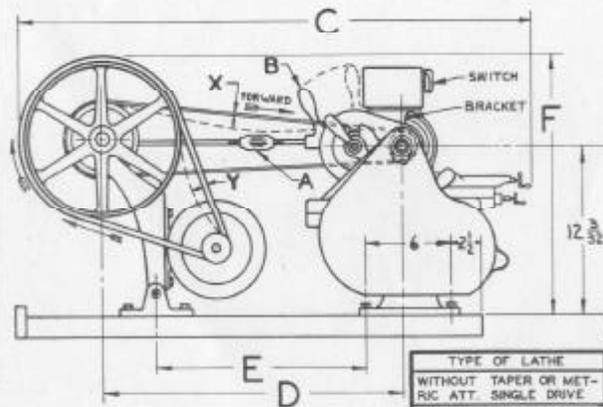
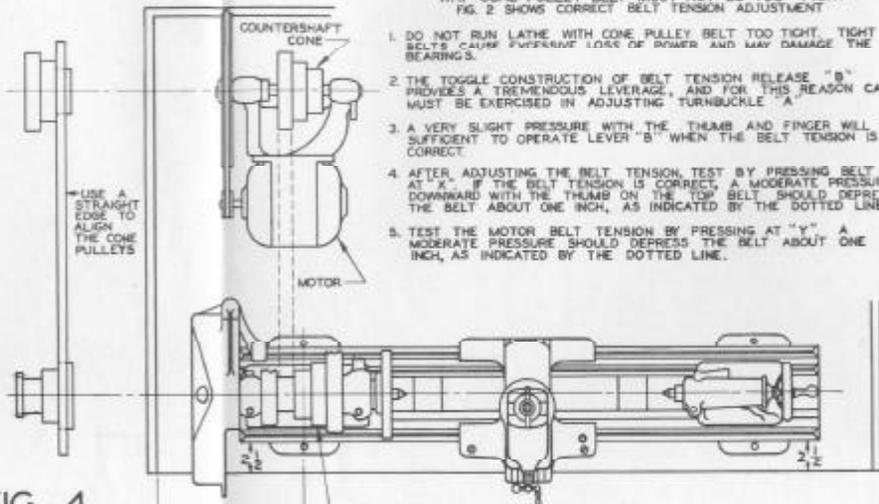

FIG. 2
FIG. 4
2. SET COUNTERSHAFT ON BENCH. SEE FIG. 2. ALIGN COUNTERSHAFT WITH LATHE USING STRAIGHT EDGE FROM CONE TO CONE. SEE FIG. 4. SCRIBE AROUND INSIDE OF SLOTS IN BASE OF COUNTERSHAFT. REMOVE COUNTERSHAFT, DRILL BENCH FOR BOLTS, AND FASTEN COUNTERSHAFT TO BENCH.
WHY CONE PULLEY BELT MUST NOT BE TOO TIGHT FIG. 2 SHOWS CORRECT BELT TENSION ADJUSTMENT